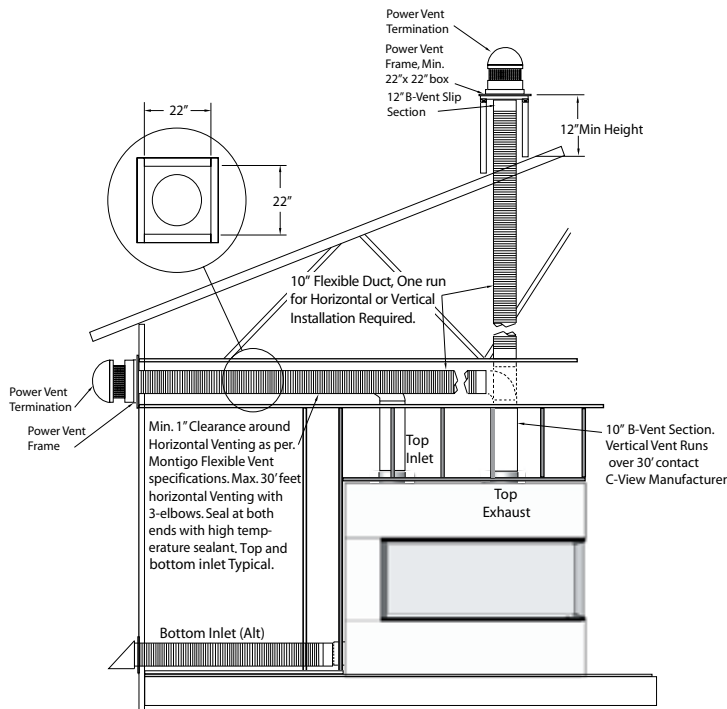

Figure 8. Typical B-vent configurations.
2. Fasten the termination and its frame using a minimum of 4 screws. (See Figure 8, 8a)